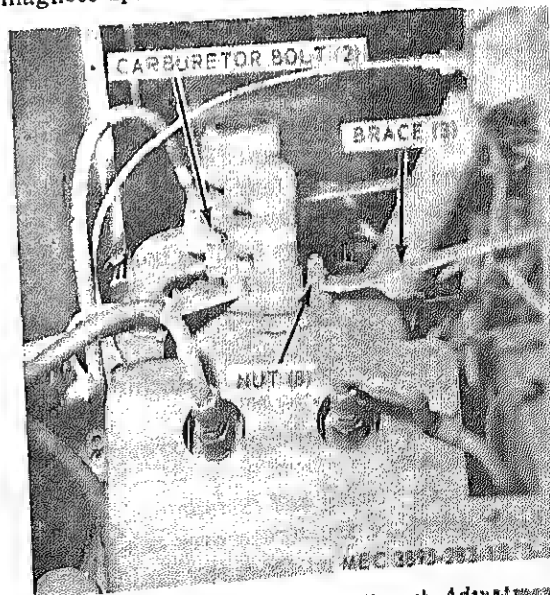

Figure 3-17. Upper Exhaust Branch Adjustment.
(2) Remove intake and exhaust manifold upper branch as illustrated in figure 3-17.
(3) Loosen hose clamps (2), and remove hose from carburetor.
(4) Loosen the lock screws (3) holding the choke control cable to the carburetor. Remove cable from choke arm.
(5) Remove control arm screws (4) on governor control arm. Pull rod from arm.
(6) Remove the two bolts (fig. 3-17).
(7) Remove carburetor from engine.
(1) Remove carburetor (para 3-39).
(2) Remove upper manifold as illustrated in figure 3-17.